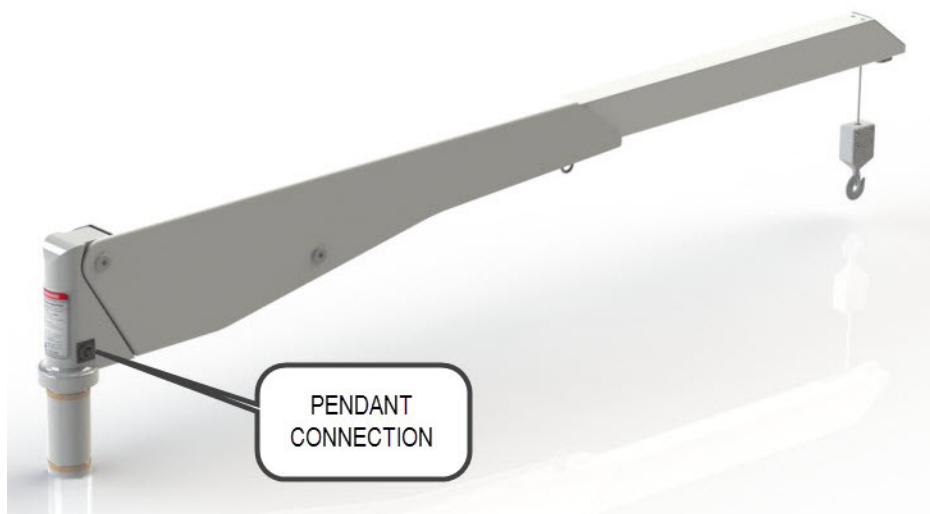

Figure 7
3. Connect pendant hand control by plugging it into connection on the davit (Figure 7).
6. Connect pendant hand control by plugging it into connection on truck (Figure 7).